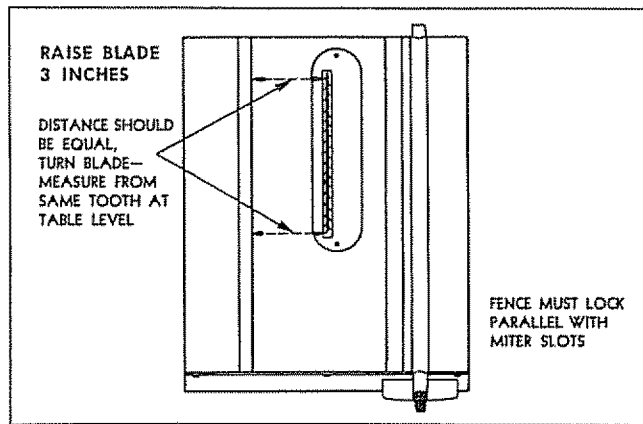

FIGURE 5
The **Blade Must Be Parallel with the Miter Slots in the Table to Get a Straight Cut.** (See Fig. 5).
2. Measure accurately from a raker tooth on the blade to an edge of either miter slot, as explained and shown in Fig. 5.